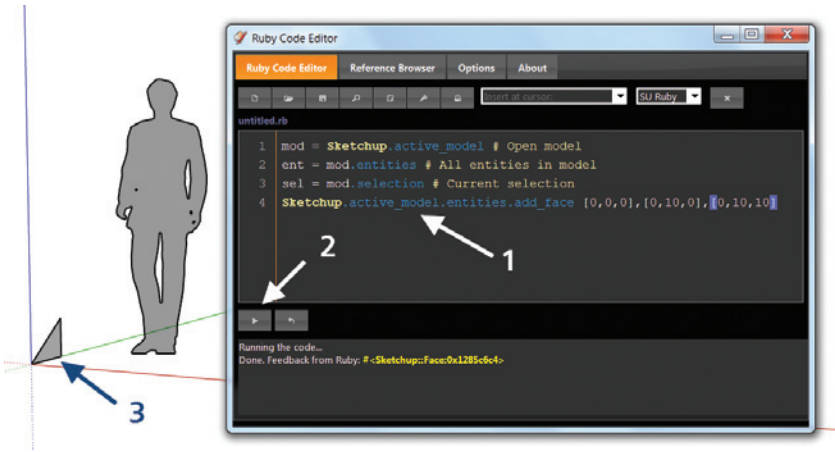

Figure 6.6: First example in the Ruby Code Editor
You can try it out by entering any of the code examples that we worked with before into the editor area. In the example shown in **Figure 6.6**, we insert the line of code that adds a triangle to the model (1), press the Run button (2), and the triangle appears on the screen (3). If you don't like what you just did, then simply click the Undo button next to the Run button to undo the drawing of the triangle.